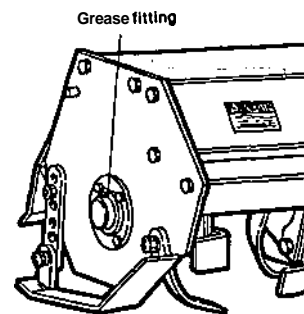

Fig. 26
- 3 Rotor Shaft Bearing - Apply 2-3 shots of grease to grease fitting at right end of rotor shaft using hand pump grease gun (Fig. 26).